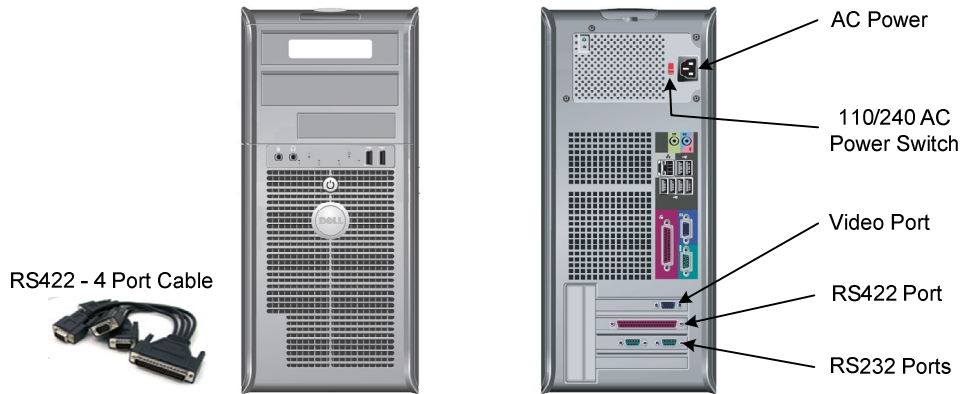

Figure 3 – Graphic Control Module II (GCM II) Connections
Figure 3 shows the connection ports on the GCM II assembly. Inside the GCM II are a RS422 expander board that comes with a four (4) port cable and a RS232 board with two (2) fixed ports. The other connections are normal PC connections for printers, monitors (two port cable for video graphics card, P1 used for connecting monitor), speakers, RJ45 network and USB devices. **The power switch needs to be set to the appropriate AC voltage before use.**